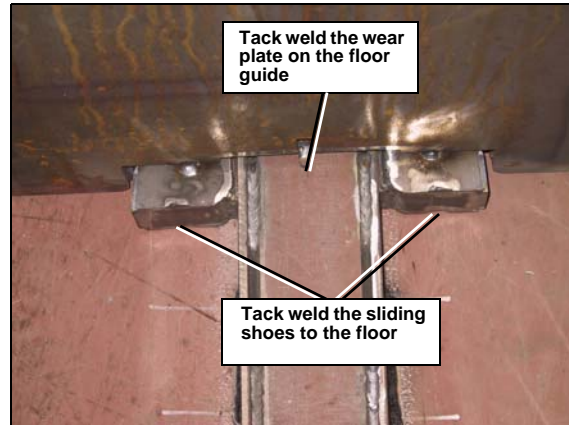

Figure 49. Tack weld the sliding shoes and wear plates
12. Tack weld the right-hand side sliding shoes to the floor and the wear plate to the floor guide (in front of the packer). See Figure 49. “Tack weld the sliding shoes and wear plates”. Do the same for the ones on the left-hand side.